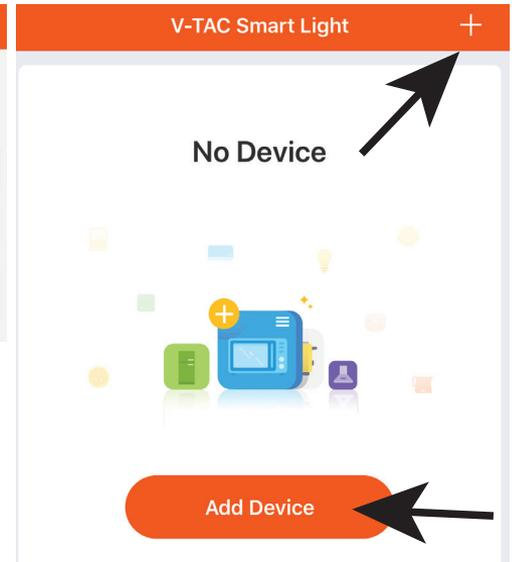

Fig 4
Step 6: Tap on 'Add Device' or the + sign. Make sure the device is switched on.(Ref Fig 4)